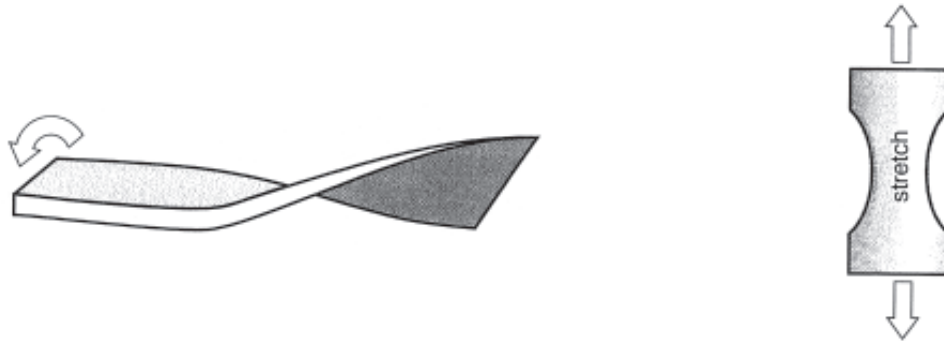

Figure 10
- iii. In the space provided below, name the type of force the following two examples (Figure 10) represent.